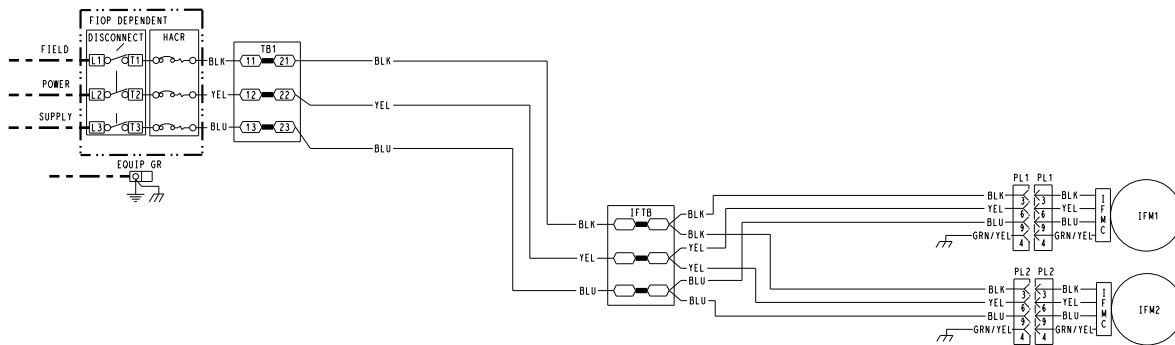

Fig. 11 — Typical Power Wiring Connections
4. Check for proper line voltage at motor power leads Black (PL1-1), Yellow (PL1-2), and Blue (PL1-3). See the following table and Fig. 11.